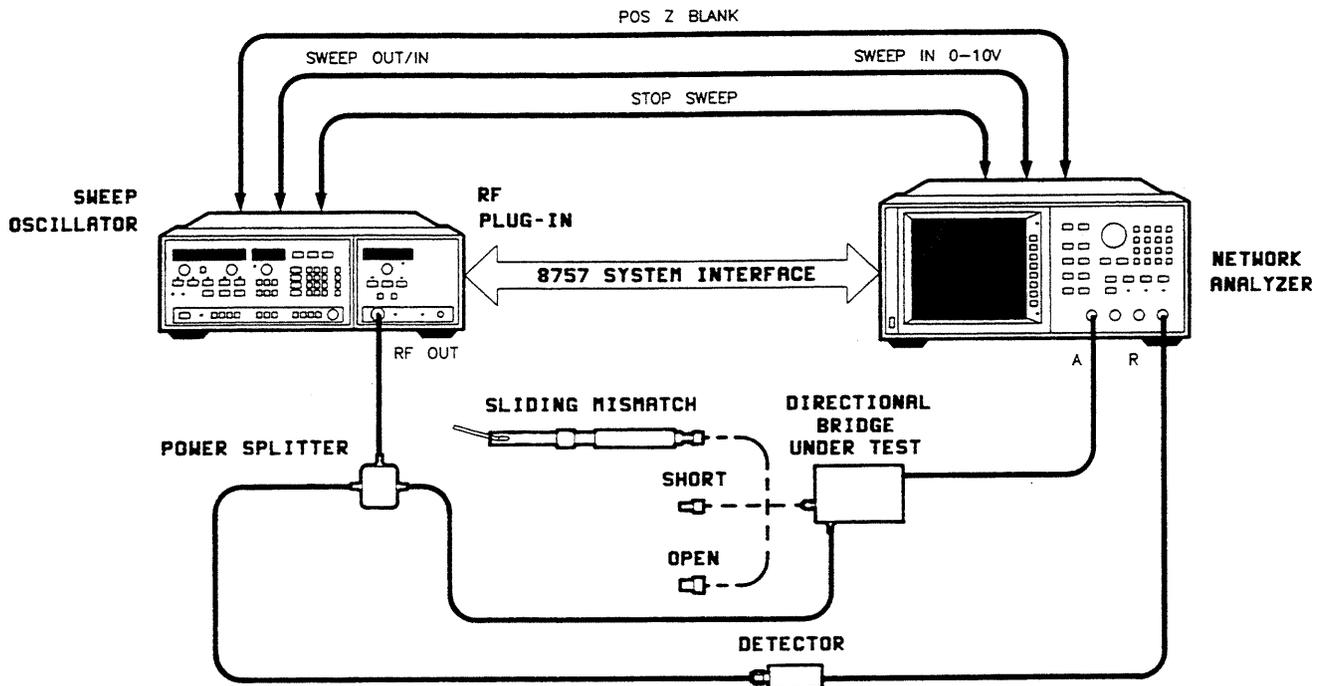

Figure 4-2. Directivity Test Setup 4 to 40 GHz
1. Connect the equipment as shown in Figure 4-2. Orient the bridge so the sliding mismatch will be vertical when connected to the bridge test port. Allow 30 minutes warm-up. Set the bridge configuration switch to **HP 8757**.